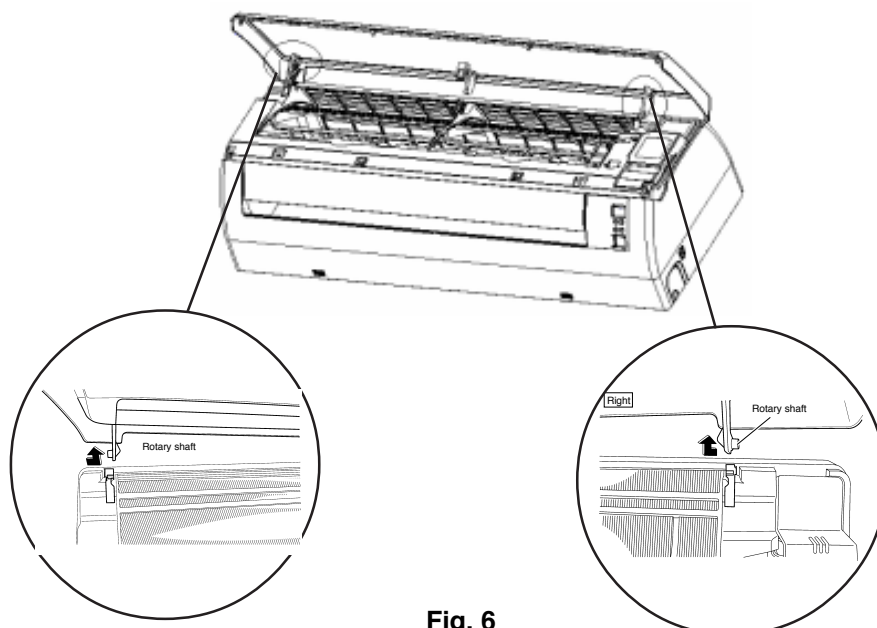

Fig. 6
- (3) Hook a finger onto the projection part provided on the both sides of the unit's panel and open up the panel to the position higher than it will stop. (Fig.6)